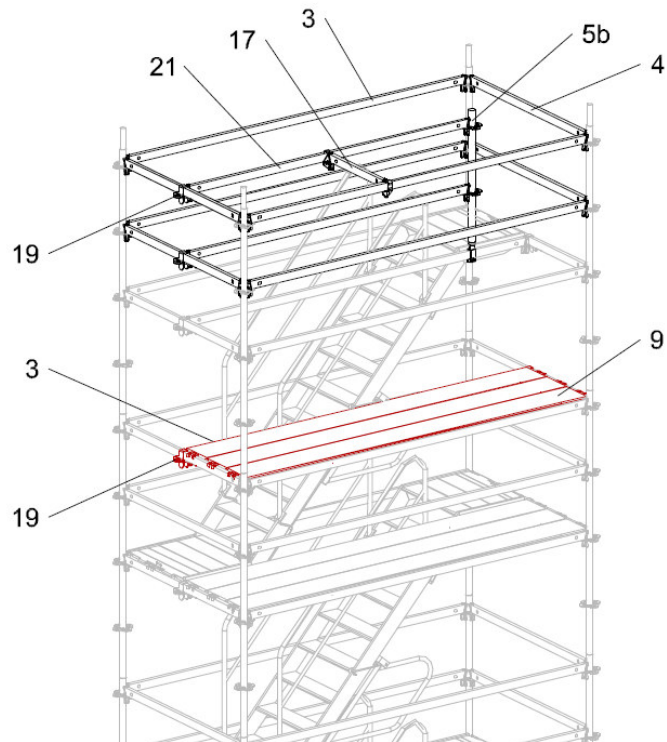

Fig.B6-1
Reposition Steel Decks UDG 300 (9) to position shown. (Fig. B6-1)